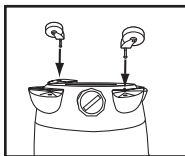

FIGURE 12
11. Take the remaining casters and place a flat washer over the stem of each caster. Insert casters into accessory caddy by placing the caster stems into the holes provided. Apply pressure and twisting motion until casters snap into place. **FIGURE 12.**